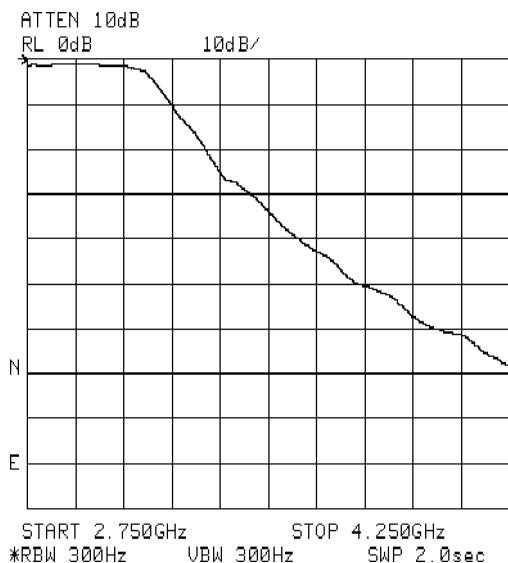

Figure 3-20. Lowpass Filter Roll-Off Measurement Results
9. Observe the filter roll-off. Refer to Figure 3-20 for an example of the measurement results.